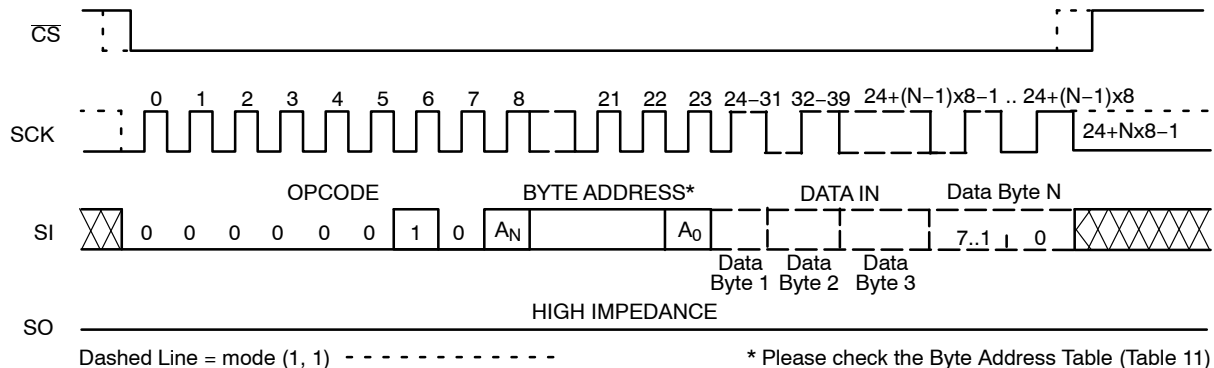

Figure 6. Page WRITE Timing
After sending the first data byte to the CAT25512, the host may continue sending data, up to a total of 128 bytes, according to timing shown in Figure 6. After each data byte, the lower order address bits are automatically incremented, while the higher order address bits (page address) remain unchanged. If during this process the end of page is exceeded, then loading will “roll over” to the first byte in the page, thus possibly overwriting previously loaded data.
The additional 128-byte Identification Page (IP) can be written with user data using the same Write commands sequence as used for Page Write to the main memory array (Figure 6). **The IPL bit from the Status Register must be set (IPL = 1) using the WRSR instruction, before attempting to write to the IP.**